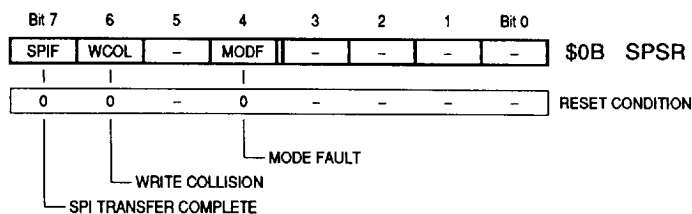

Figure 3-32. Serial Peripheral Status Register
3.7.4.2 SERIAL PERIPHERAL STATUS REGISTER (SPSR). This read-only register (Figure 3-32) contains status flags which indicate the completion of an SPI transfer and the occurrence of certain SPI system errors. The flags are automatically set by the SPI events; the flags are cleared by automatic software sequences and upon reset. In the majority of all systems, only the SPIF status bit is important.